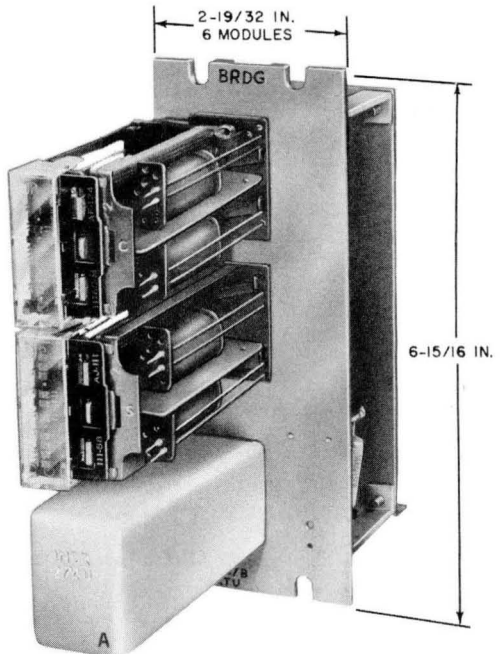

Fig. 1—237B Key Telephone Unit
2.01 The 237-type key telephone unit (KTU) (Fig. 1) provides for bridging of two lines for a 3-way conference in the following arrangements:
- A central office (CO) line and a PBX line